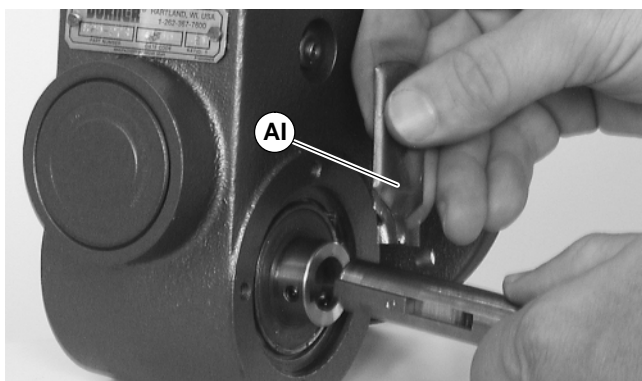

Figure 17
6. Remove two (2) screws (AC) and detach output shaft cover (AD).
7. Remove gear reducer output shaft key (AE).
8. Apply Loctite® 680 Adhesive (AI of Figure 17) to new shaft.